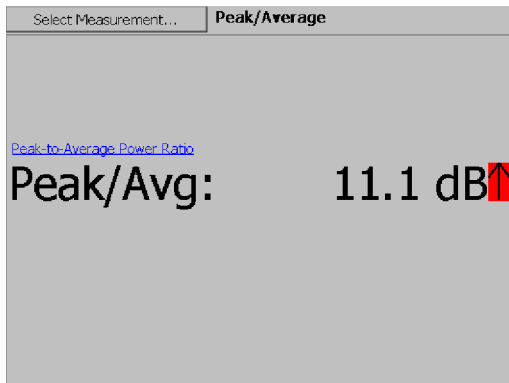

Figure 3-41: A typical Peak to Average Power Ratio display
3. Tap **Peak/Average**. See Figure 3-41.